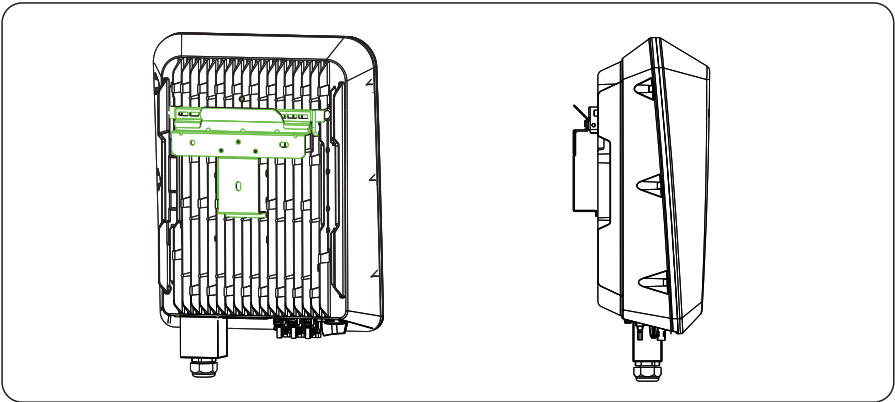

Figure 4.14 Mounting the inverter
**Step 6** Mount the inverter on the rear panel and secure it as shown in Figure 4.14.